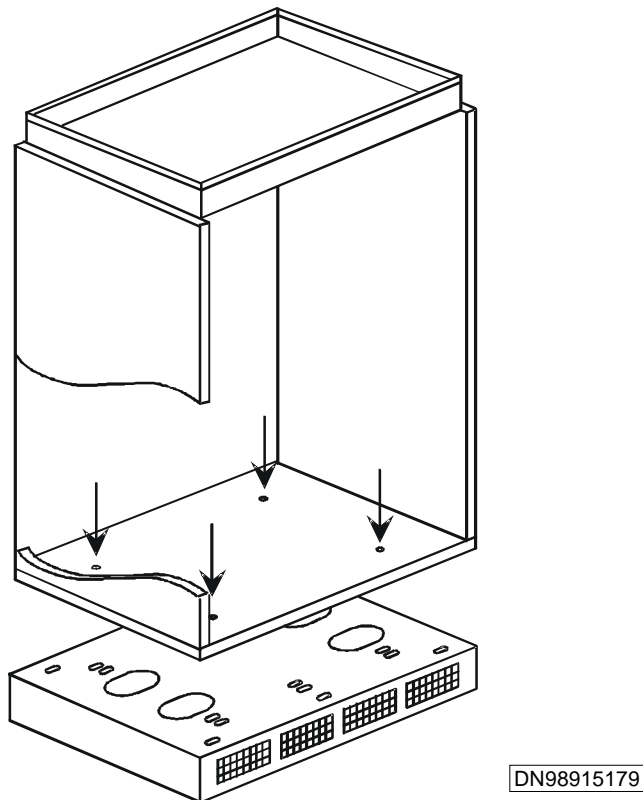

Figure 17 Fixing points between the cabinet and plinth
1. Lift the cabinet onto the plinth as shown in Figure 17.